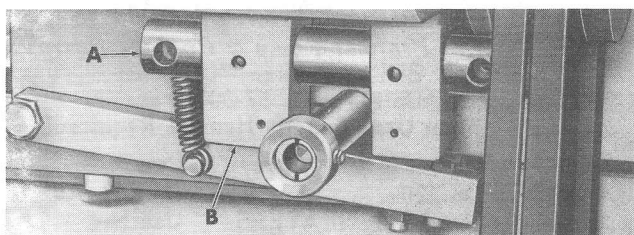

Figure 2
2. Slide switch panel mounting bar (A, fig. 2) in holes in back of headstock (B).